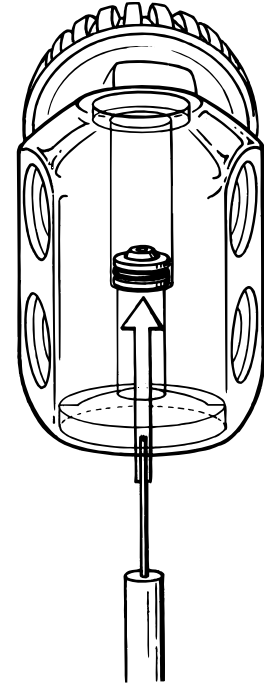

Fig. 3
11. Loosen the vise to remove the first stage, and turn it over to allow the pin support(25) and pin(24) to drop onto the bench.
13. Loosen the vise to remove the first stage, and carefully turn the body over to allow the springs(14b & 14a), spring block(17), and high pressure seat(13) to drop out onto the bench. Discard the seat, and do not attempt to reuse.
16. Carefully remove the O-ring(15) and backup ring(16) from inside the balancing chamber of the spring block, using a brass or plastic O-ring removal tool to prevent any damage to the internal sealing surface of the spring block.
18. Using the seat extraction tool (P/N 1094-36), press the crown(11) out of the first stage body by inserting the pin through the low pressure side (see Fig. 3). Carefully pull the crown out of the body, being careful to prevent damage to the sealing surfaces inside the body and on the raised edge of the crown. Remove and discard the O-ring(12).